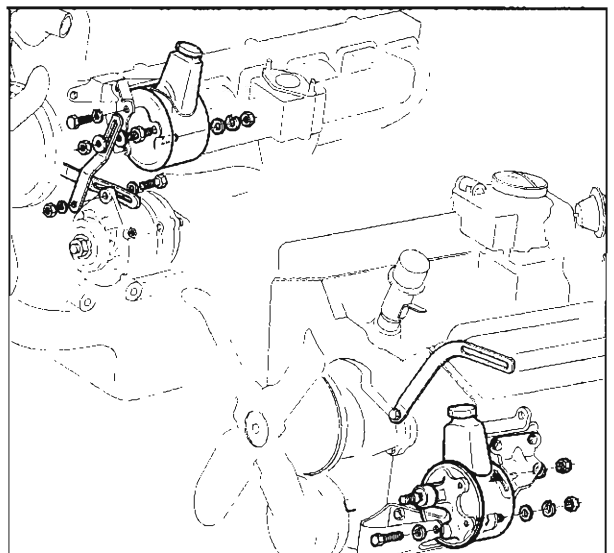

Fig. 44—Power Steering Pump Mounting—Typical
2. Position pump assembly on vehicle (fig. 44) and install attaching parts loosely.